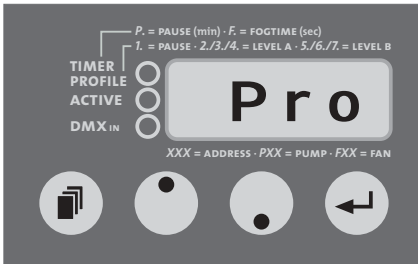

Fig. 4: Changing to the Profile-Mode
- Press the Mode button repeatedly [14], until „Pro“ appears on the display (see Fig. 4).